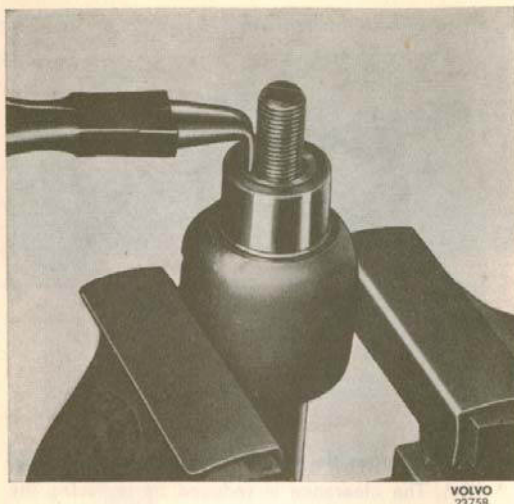

Fig. 6-23. Removing the adjusting screw
3. Remove the bolts and end cover (17). Preserve the adjusting shims (20).
4. Strike the steering shaft (10) carefully so that the outer race of the lower bearing comes out of the housing. Remove the steering shaft (10) with cam and bearings.
5. Slacken the locknut (3) and unscrew the adjusting screw (2) from the cover. The adjusting screw can be removed from the pitman arm shaft when the locking ring has been removed, see Fig. 6-23.